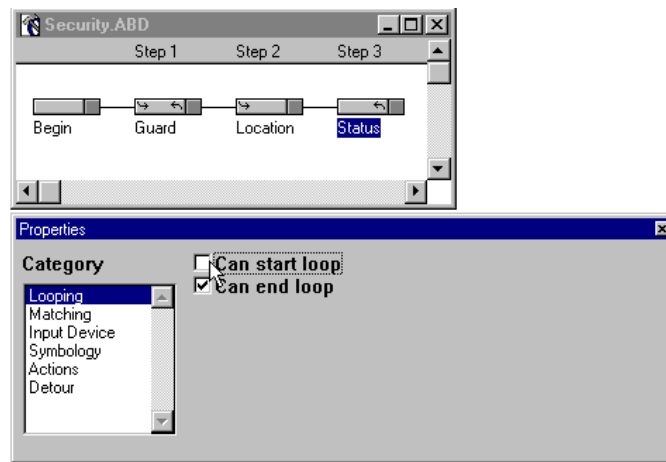

Figure 3-47 “Status” Handler - Looping
41. Click the **Can start loop** check box to deselect the option (Figure 3-47). (A checkmark should not appear in the box.)